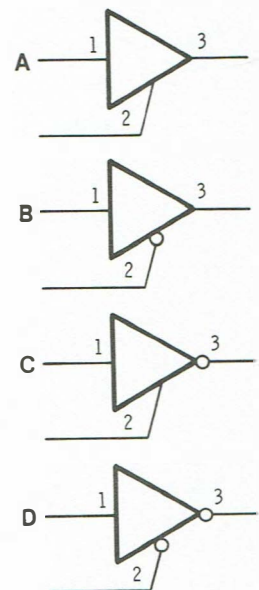

Figure 10-31
Refer to Figure 10-31 for questions 4-6.
4. Which of the devices shown in Figure 10-31 is a noninverting 3-state buffer enabled by a logic 0?
6. Which of the following devices shown in Figure 10-31 is an inverting 3-state buffer, disabled by a logic 1 applied to pin 2?